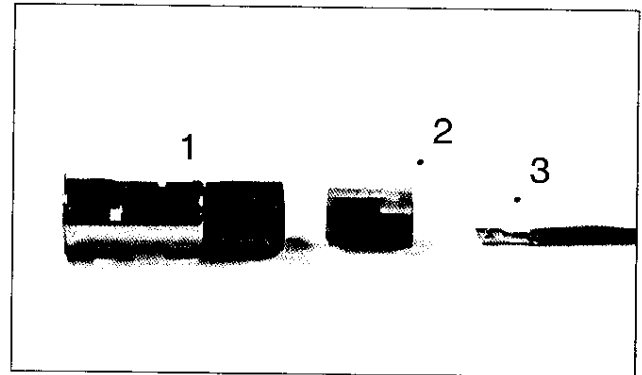

Fig. 21
- a. Remove the cigar lighter from its receptacle base. Locate the PLASTIC retaining tabs that secure the receptacle base to the receptacle mount on the dashboard. These plastic tabs lock into openings positioned approximately 3/4" from the end of the receptacle base, indicated by arrow #1 in Figure 21. Use external snap ring pliers, a small screwdriver or an angled scribe to disengage the tabs from the receptacle, then gently pull the receptacle out of the dashboard into the passenger compartment.
- b. Press down on the electrical connector terminal lock (arrow #2, Figure 21) and disengage the connector from the receptacle.
- e. Locate the switch power supply lead on the switch/harness assembly. This lead is a single white wire, with approximately 1/4" of insulation removed from the end. Pull this wire from behind the dash through the cigar lighter hole. Crimp the end of this wire ALONG WITH the red/orange wire into one of the terminals provided in the kit (arrow #3, Figure 21), making sure the connection is secure.